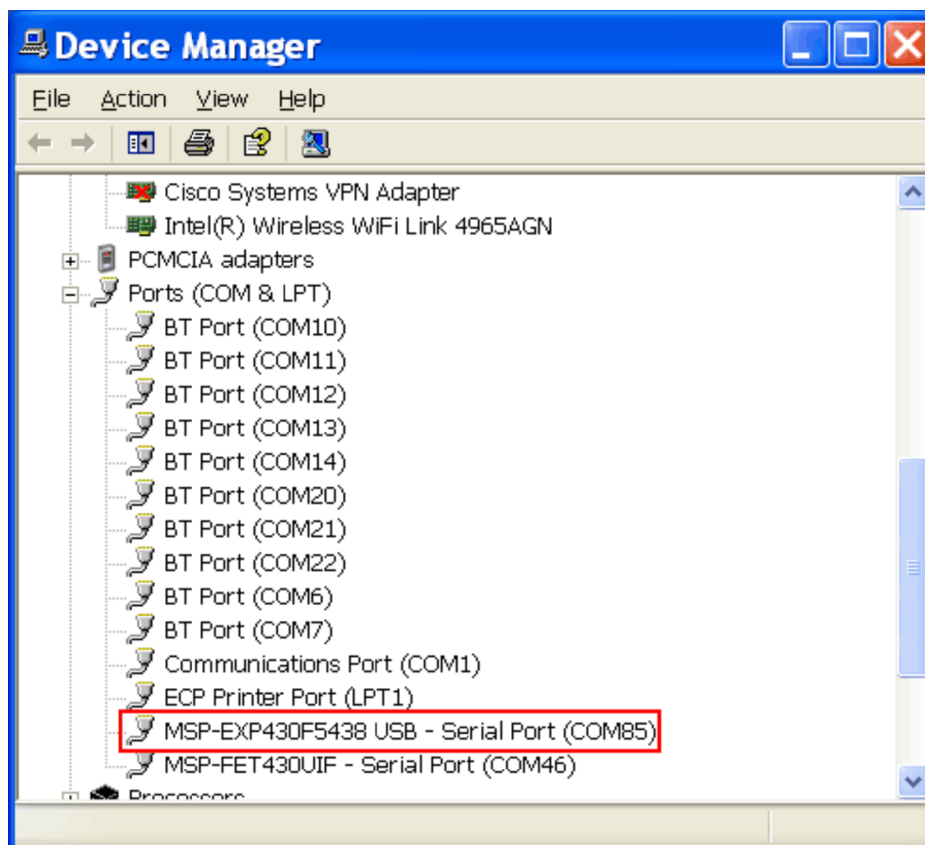

Figure 2-1. Installing the MSP-EXP430F5438 USB Driver
9. To ensure that the USB driver installation was successful, open Device Manager under Start > Control Panel > System > Hardware > Device Manager. An entry labeled MSP-EXP430F5438 USB - Serial Port (COMxx) should be appear under Ports (COM & LPT) (see Figure 2-1) (the xx in COMxx identifies the enumeration of the COM port).